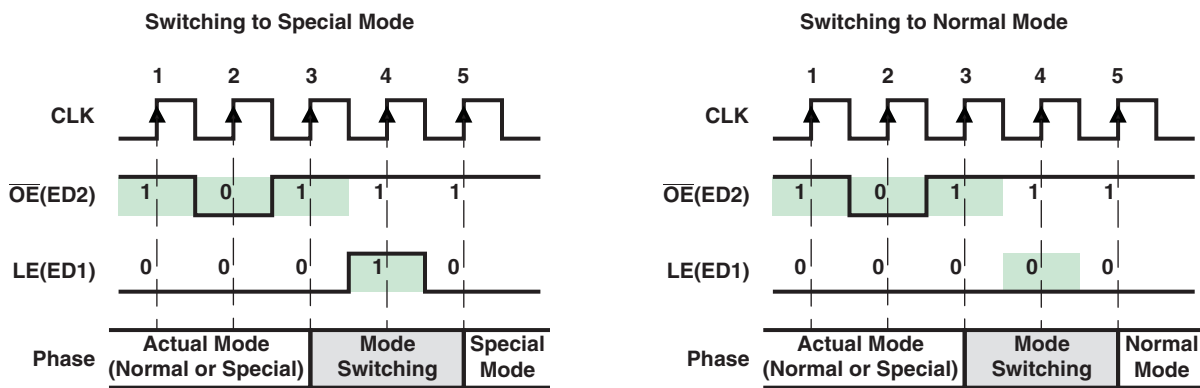

Figure 12. Mode Switching
In order to switch between its two modes, TLC592x monitors the signal $\overline{OE}(ED2)$. When a one-clock-wide pulse of $\overline{OE}(ED2)$ appears, TLC592x enters the two-clock-period transition phase, the Mode Switching phase. After power on, the default operation mode is the Normal Mode (see Figure 12).
As shown in Figure 12, once a one-clock-wide short pulse (101) of $\overline{OE}(ED2)$ appears, TLC592x enters the Mode Switching phase. At the fourth rising edge of CLK, if $LE(ED1)$ is sampled as voltage high, TLC592x switches to Special mode; otherwise, it switches to Normal mode. The signal $LE(ED1)$ between the third and the fifth rising edges of CLK cannot latch any data. Its level is used only to determine into which mode to switch. However, the short pulse of $\overline{OE}(ED2)$ can still enable the output ports. During mode switching, the serial data can still be transferred through SDI and shifted out from SDO.